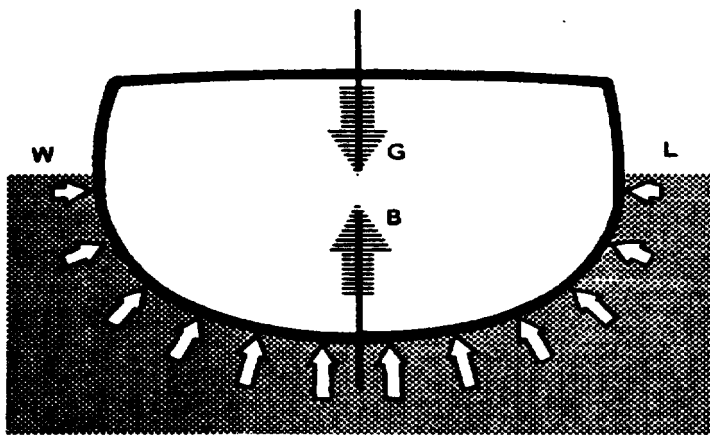

Fig. 7-4 Relationship of buoyancy and gravity centers
- (2) Neutral Stability. If the ship settles in the orientation it is placed in by the disturbing force, it is neutrally stable. Neutral stability seldom occurs on a floating ship. If it does occur, extreme care should be taken not to exert any heeling force on the ship, because in all likelihood it will cause the ship to capsize.
- c To understand the principles governing stability you must first understand the principle of buoyancy. When a ship is placed in water, it displaces a volume of water, the weight of which is equal to the weight of the ship. The displaced water exerts a pressure on the hull, tending to force the ship back out of the water. This upward force is buoyancy. The resultant buoyant force acts in a vertical line through the center portion of the ship's body. This point is called center of buoyancy and is designated by the letter B in **Figure 7-4**. B is a function of the ship's underwater body shape and volume, and is not easily affected by the crewmembers.
- d Countering the force of buoyancy is the weight of the ship and its cargo. Though the weight of the ship is distributed throughout the ship, it is considered through a single point. The point through which this resultant force acts is called the center of gravity, and is designated by the letter G. The weight of the ship also acts in a vertical line, but in a downward direction (see **Figure 7-4**). The center of gravity of a ship is solely a function of weight distribution ship. The center of gravity is in a fixed position for each condition of loading the ship. It moves whenever there is a weight addition, removal or movement within the ship.